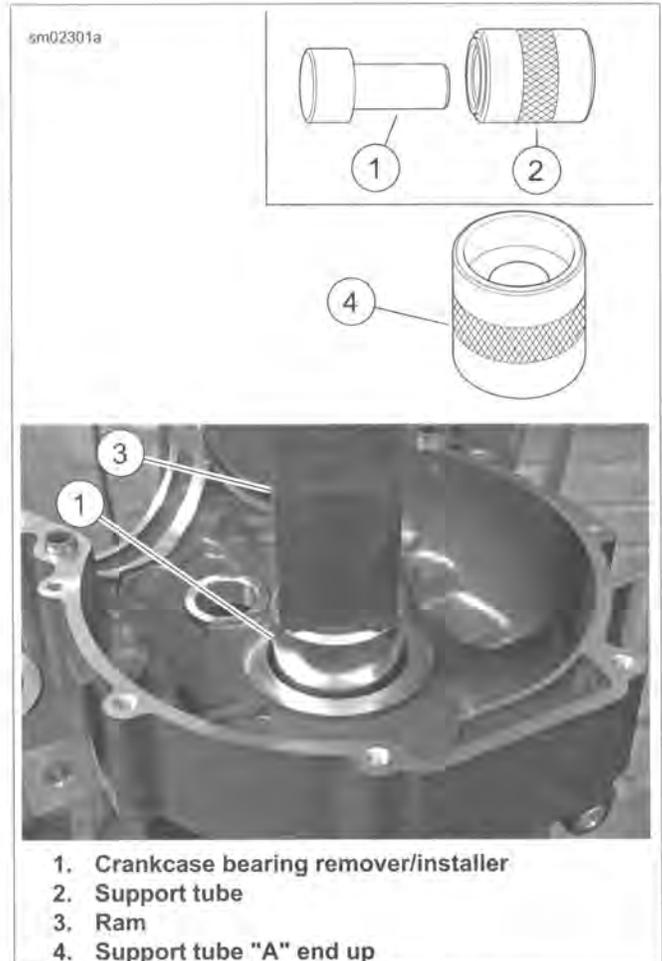

Figure 3-121. Right Main Bearing Removal
- See Figure 3-121. Obtain CRANKCASE BEARING REMOVER/INSTALLER (Part No. B-45655) and REMOVER/INSTALLER SUPPORT TUBE (Part No. HD-42720-5).
- Place support tube (4) on hydraulic press table with the "A" end up. Note that the sides of the support tube are stamped to verify proper orientation.
- Slide remover/installer (1) through bearing into support tube.
- Center remover/installer under ram (3) of press. Apply pressure until bearing is free.